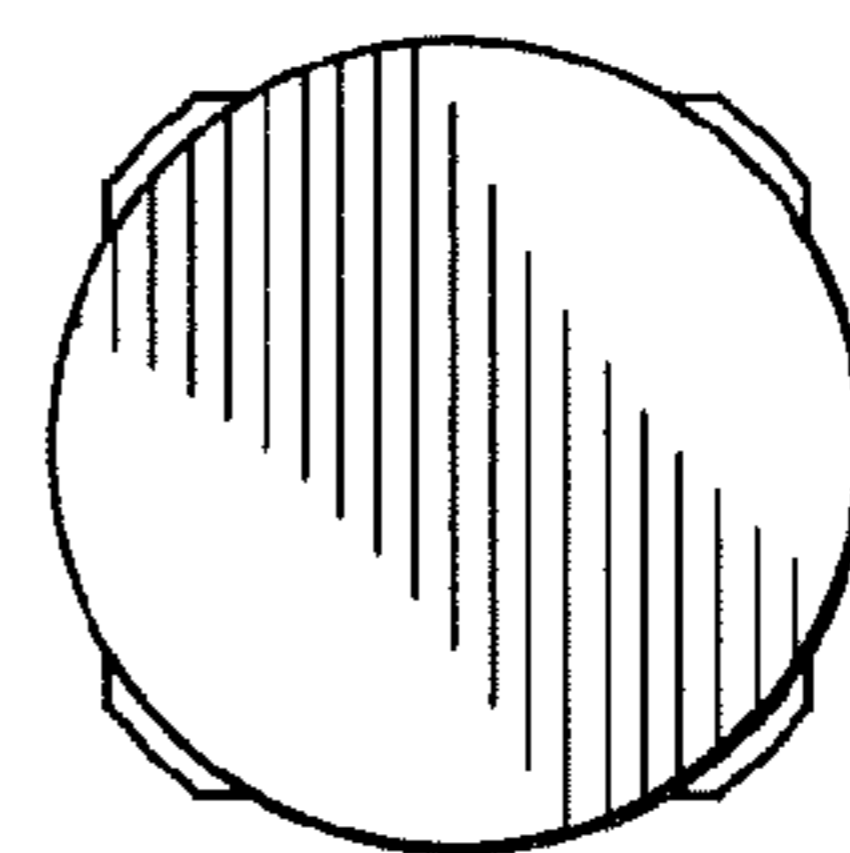

Fig. 18
- FIG. 18 is a bottom plan view of the stud having longitudinal ridges;